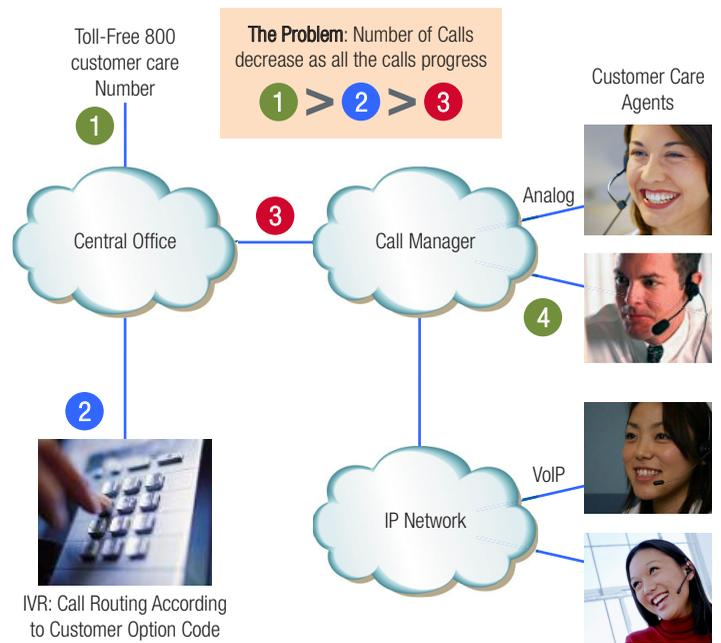

Figure 1: Service Provider's Network: Calls were being dropped as they progress through the customer care center
A call to customer care is routed as follows (see Figure 1):
The number of customer calls arriving at the IVR (2) are fewer in number than those received at the central office (1). Also, the number of calls arriving at the call manager (3) are fewer in number than those received at the IVR (2). Calls are being dropped as they progress through the network and the reason for this is unclear. See Figure 1.